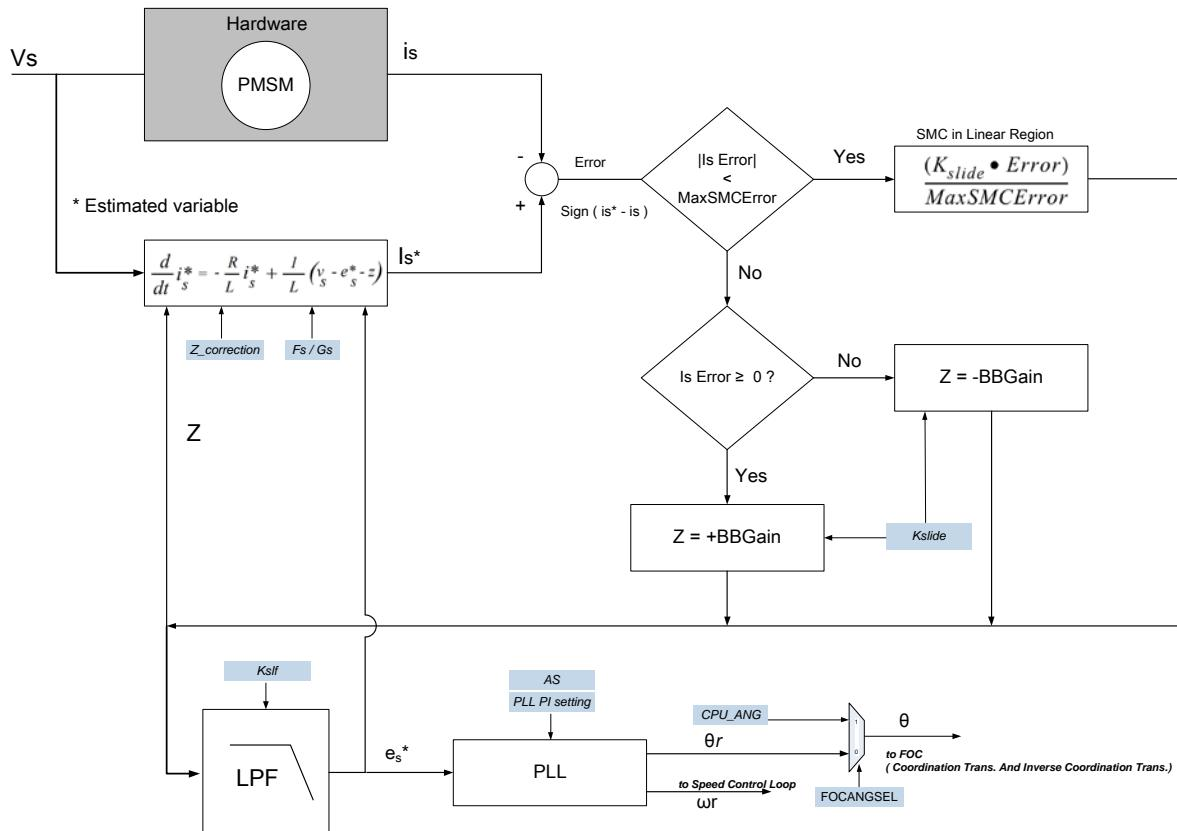

Figure 25.5.1 : SMO Rotor Position Estimation Block Architecture
The digitized model provides a software representation of the hardware. However, in order to match the measured current and estimated current, the digitized motor model needs to be corrected using the closed loop, as shown in Figure 25.5.1.
The sliding-mode controller has a limit value MaxSMCError. When the error value is lesser than the MaxSMCError, the output of sliding-mode controller works in the linear range as given by the equation beneath the PMSM block in Figure 25.5.1. K_{slide} parameter can be setting via K_{slide} SRF (see Table25.5.1).
After compensating the digitized model, you have a motor model with the same variable values for the input voltage (V_s) and for current (i_s^*). Once the digitized model is compensated, the next step is to estimate BEMF (e_s^*) by filtering the correction factor (Z), as shown in Figure 25.5.1. The BEMF estimation (e_s^*) is fed back to the model to update the variable e_s^* after every control cycle. Values e_α and e_β (vector components of e_s) are used for the estimated Theta calculation.
The θ of FOC (see Figure 25.5.1), is designed with a Multiplexer that select signal is FOCANGSEL (MOTOR_CONT1[3], SFR Address = BFH). When FOCANGSEL= 1, FOC_ANG = CPU_ANG (page4 of FOC_D, Table25.4.3), if FOCANGSEL = 0, FOC_ANG = θ_r to FOC (see Figure 25.5.1).